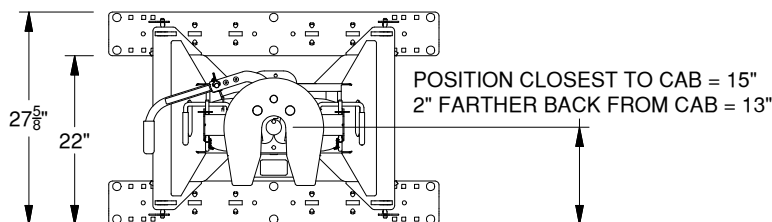

Figure A2: Distance from edge of rear rail to pivot point.
- 1. Mount arms.** Mount the pivot arms using one of the six different locations illustrated in Table A1 and Figure A2. These six locations allow flexibility in coupler height (vertical adjustment) and distance from the cab (horizontal adjustment). Choose a location so that your trailer will be as level as possible and have adequate turning clearance while towing.